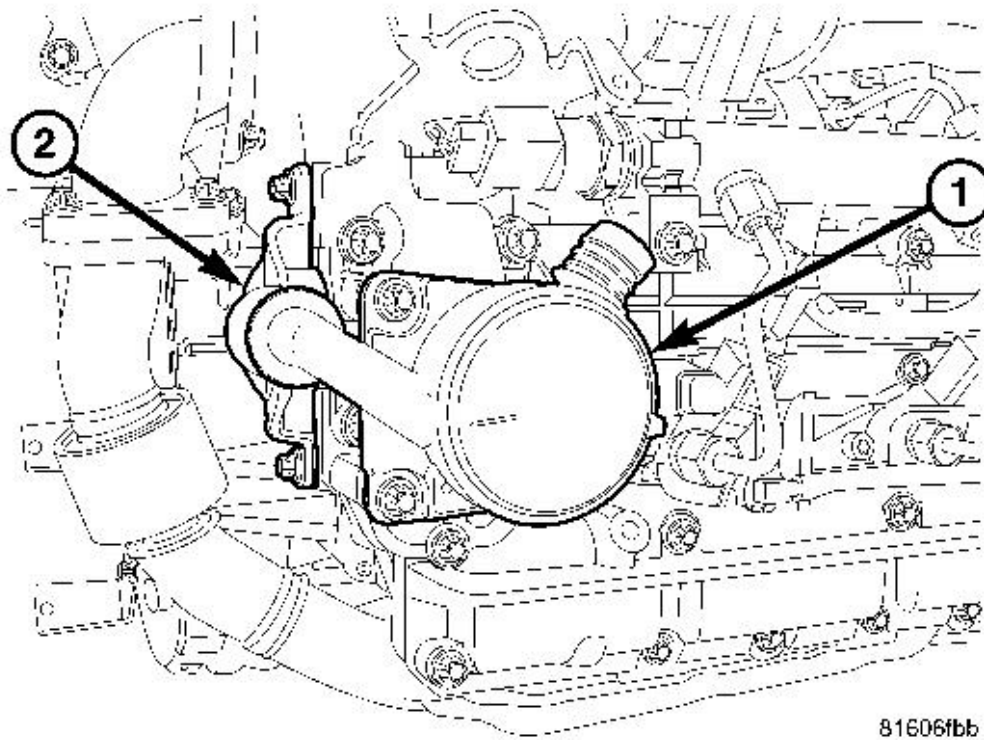

Fig. 159: Oil Separator Housing & Adapter
8. Remove the oil separator (1) and rear housing Adapter (2). See **Fig. 159**.